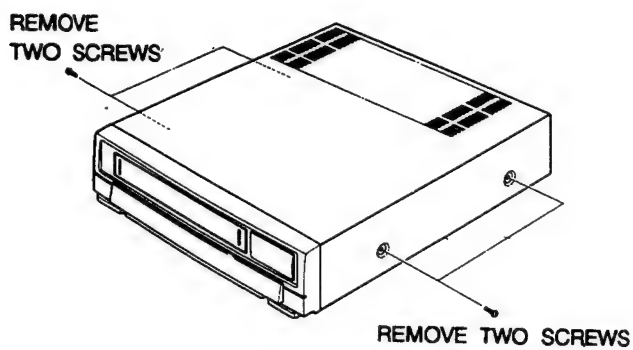
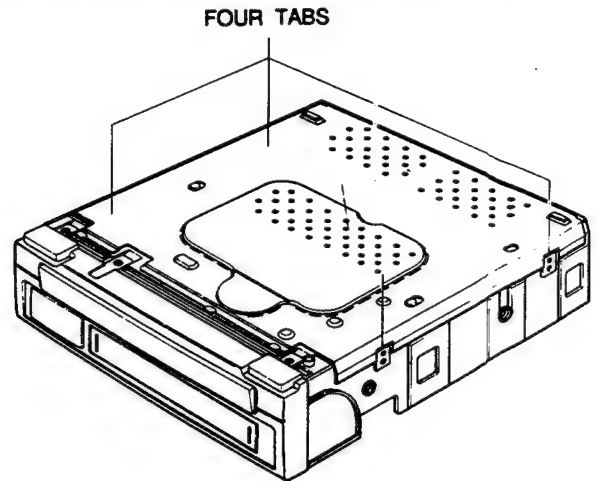

Fig.1 Top Cabinet Removal
Fig. 3 Bottom Cover Removal
- 1) Remove the top cabinet (Fig. 1).
- 2) Release seven (7) tabs from the bottom, top and both sides of the front panel.
- 1) Follow the procedure for removing top cabinet (Fig. 1).
- 2) Remove three (3) screws from the frame.
- 3) Remove bracket syscon and disconnect two (2) connectors (CN301, CN302) which connect main A and function board.
- 2) Remove one (1) screw from the frame and lift up the bracket.
- 3) Disconnect one (1) connector (CN401) from the Main B circuit board and disconnect one (1) connect (CN502) from the Main A circuit board.
- 1) Follow the procedures for removing the top cabinet (Fig. 1), front panel (Fig. 3).
- 2) Disconnect two (2) lead connectors (CN601, CN602) from the main A circuit board.
- 3) Release five (5) tabs on the function circuit board.
- 1) Follow the procedure for removing the top cabinet (Fig. 1).
- 2) Remove two (2) screws holding the Pre-Amp to the frame.
- 3) Disconnect two (2) connectors on the Pre-Amp circuit board,
- 2) Remove one (1) screw securing the regulator ass'y.
- 3) Disconnect two (2) connectors (CN101, CN102) on the regulator circuit board.
- 4) Release one (1) tab while pushing the regulator ass'y toward A and then lift the regulator ass'y toward B.
1. Follow the procedure for removing the cover (See Figs 1 to 3).
3. Remove two (2) screws holding the housing assembly and the Main Base.